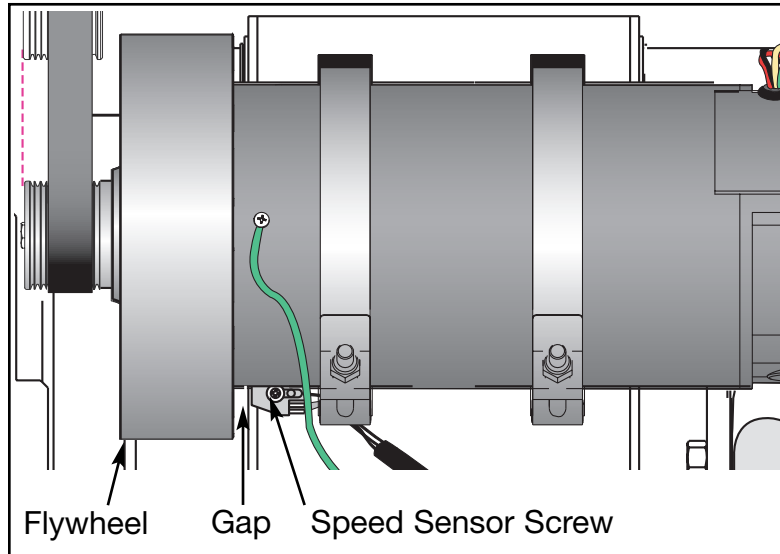

Figure 3
- A. Turn the main power switch on the left side to the off (O) position.
- A. Using a Phillips head screwdriver, loosen the screw that attaches the speed sensor to the motor saddle. See Figure 3 (speed sensor screw).
- B. Adjust the gap between the speed sensor and the flywheel to 3/16" (.48 cm) and tighten the screw. See Figure 3.